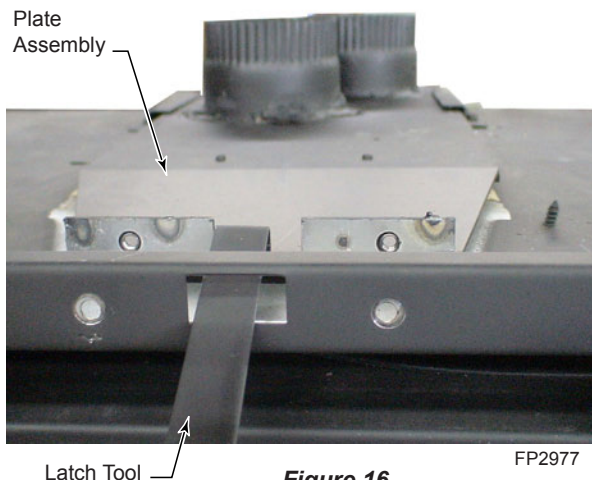

Figure 16
4. While sliding unit in place, if necessary the glass latch/shutoff tool can be used to help place the plate assembly. Using the small end of the tool, insert it in the square notch in top front of firebox. Hook the plate assembly with tool and pull forward into place while sliding firebox to the rear. Figure 16